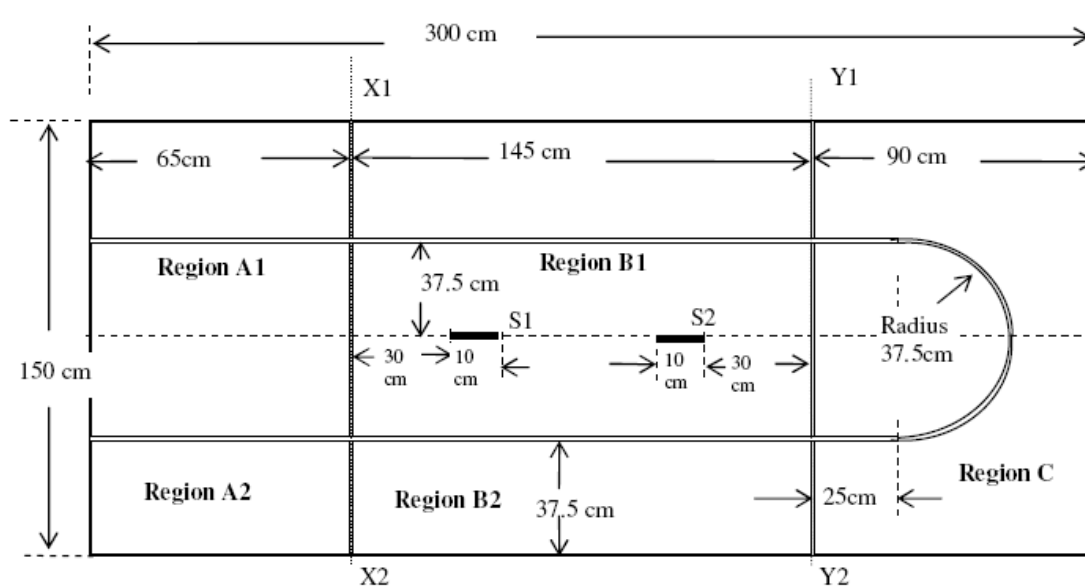

Fig.4. Pole Balancing Robot Platform
5.1 The competition table is shown in Fig.4. One common competition table will be used by all competitors. The competition platform consists of a horizontal wooden surface with a dimension of 3 m x 1.5 m. A rubber mat of 1.3 mm thickness will be used on the top of the table to improve the grip of the wheels. Referring to the Fig.4, all double lines shown are retro-reflective tapes. S1 and S2 are separators of dimensions 10cm wide, 1cm thick, and 15 cm tall firmly fitted to the competition table. There are five regions of the competition platform namely A1, A2, B1, B2, and C as shown in Fig.4. Regions A1 and A2 symmetrically divide the platform to the left of the line X1-X2 into two equal parts. Similarly regions B1 and B2 divide the platform equally between lines X1-X2 and Y1-Y2. Region C is the part of the platform to the right of line Y1-Y2. Region C is the crossover area, in which the robot is allowed to go from one side to the other. The two guide-tapes extend into region C for 25 cm. Then, tape forms a semicircle linking the two sides. The centre of the semicircle is on the unmarked middle line of the platform and 25 cm away from the Y1-Y2 line. All dimensions ending on tapes are measured from the centre-lines of the tapes. All dimensions will be within a tolerance of 2%.
- 6.1 The robotic vehicle would operate on the top of the platform provided. Please see Fig. 4.